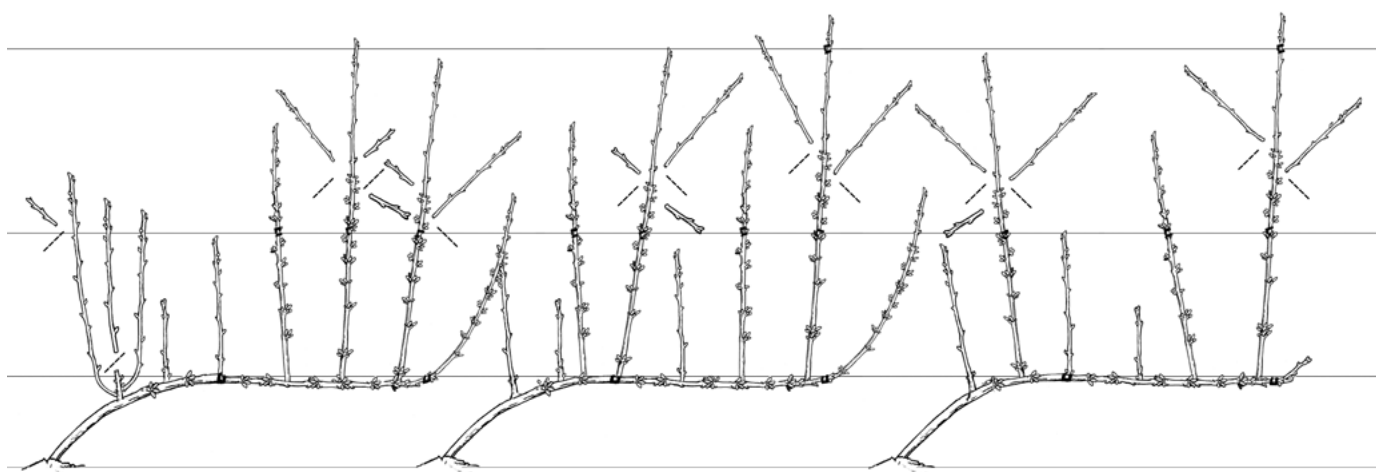

Figure 68
- For highly productive varieties, remove all lateral shoots on upright leaders with thinning cuts (Figure 68); on moderately productive varieties, remove all lateral shoots on upright leaders with stub cuts (i.e., leaving three to seven buds at the base of the lateral shoots for additional fruiting). NOTE: this removal of lateral shoots also can be done by summer hedging about 4 to 6 weeks after harvest.